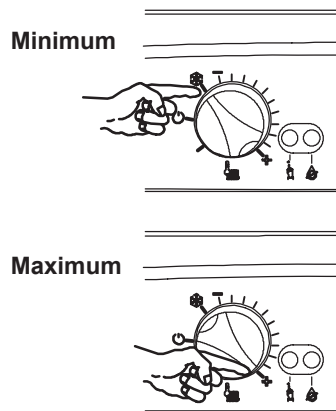

Fig. 2.5
The output temperature of c.h. water is adjustable from a minimum of about 40°C to a maximum of about 85°C (Fig. 2.5), by turning the function selector (7).